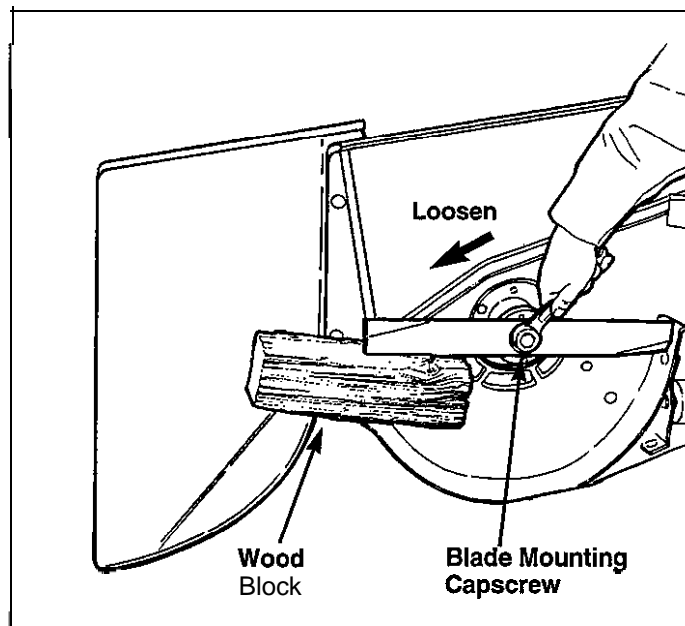

Figure 22. Removing the Blade
3. To remove blade for sharpening, use wooden block to hold blade while removing the blade mounting cap-screw (Figure 22).